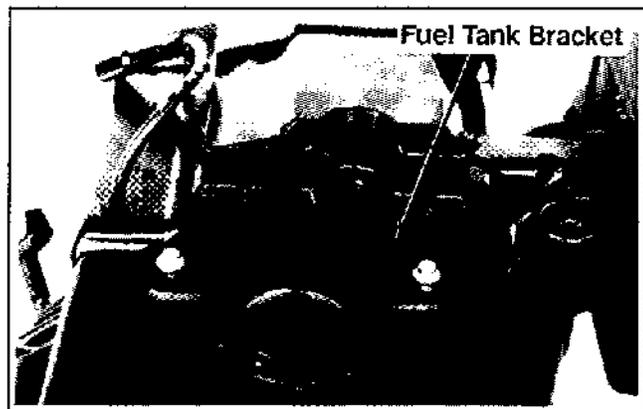

Figure 11-39. Installing Fuel Tank.
2. Install hex flange screws to upper bracket of fuel tank. Install hex flange nuts to studs in lower bracket of fuel tank. See Figures 11-39 and 11-40.